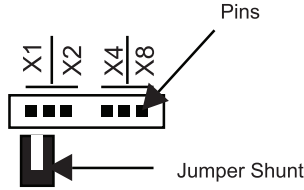

Figure 2 (6-pin jumper block)
4. Each jumper block has 4 sections labeled X1, X2, X4 and X8. The factory setting is X1 (a jumper shunt is placed on pins 1 and 2) – the system is set for connecting 1 pair of speakers to each zone (see Figure 2).